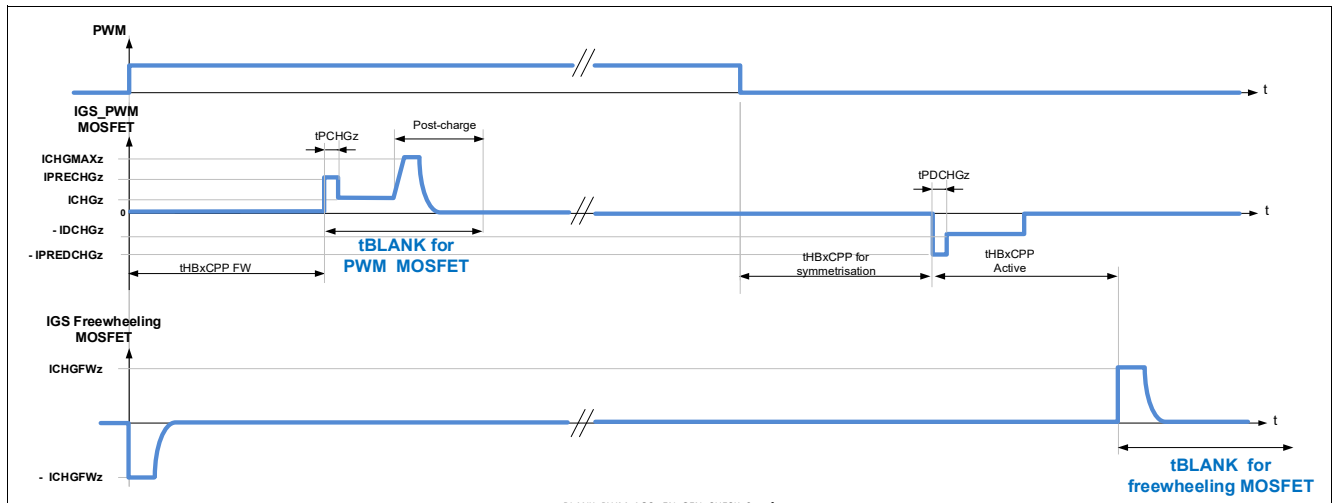

Figure 33 Blank time for half-bridges in PWM operation, detection of generator mode disabled (**EN_GEN_CHECK** = 0)
- The blank time of the PWM MOSFET starts at the expiration of the cross-current protection time of the FW MOSFET ($t_{HBxCCP\ FW}$). Refer to **Figure 33**.
- The blank time of the FW MOSFET starts after expiration of the cross-current protection time at turn-off of the PWM MOSFET ($t_{HBxCCP\ Active}$). Refer to **Figure 33**.